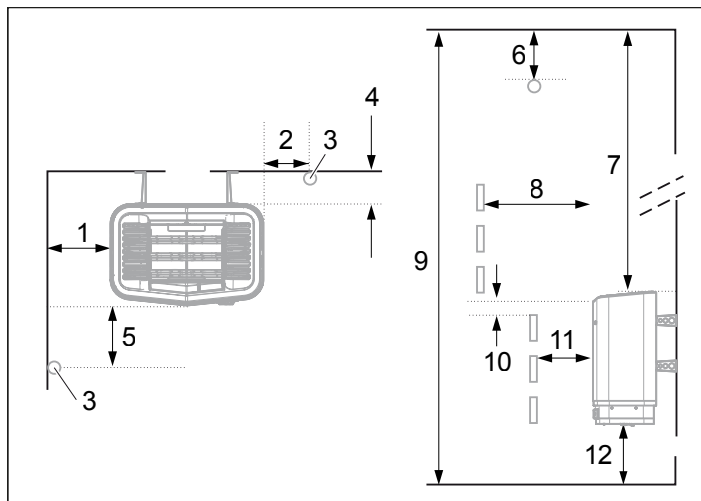

Figure 3: Positioning the heater - normal installation
- Plan the sensor positioning (see Figure 3, page 4).
- Position the heater at a safe distance from the floor, side walls and interior fittings (see Figure 3).
Position the sensor according to the picture (see Figure 3).